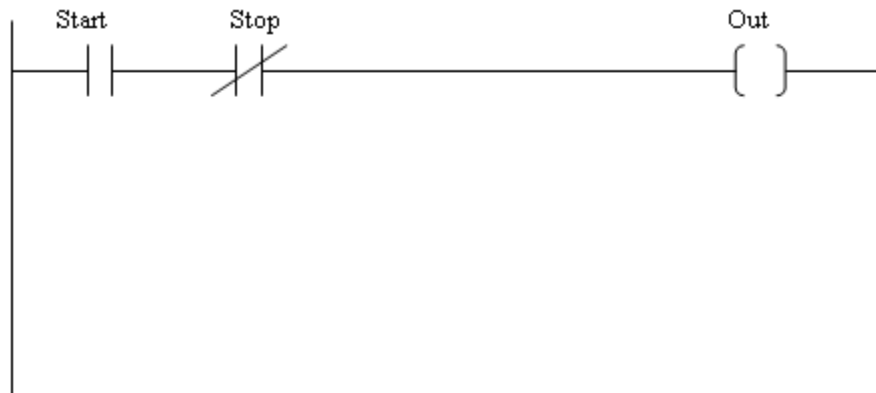
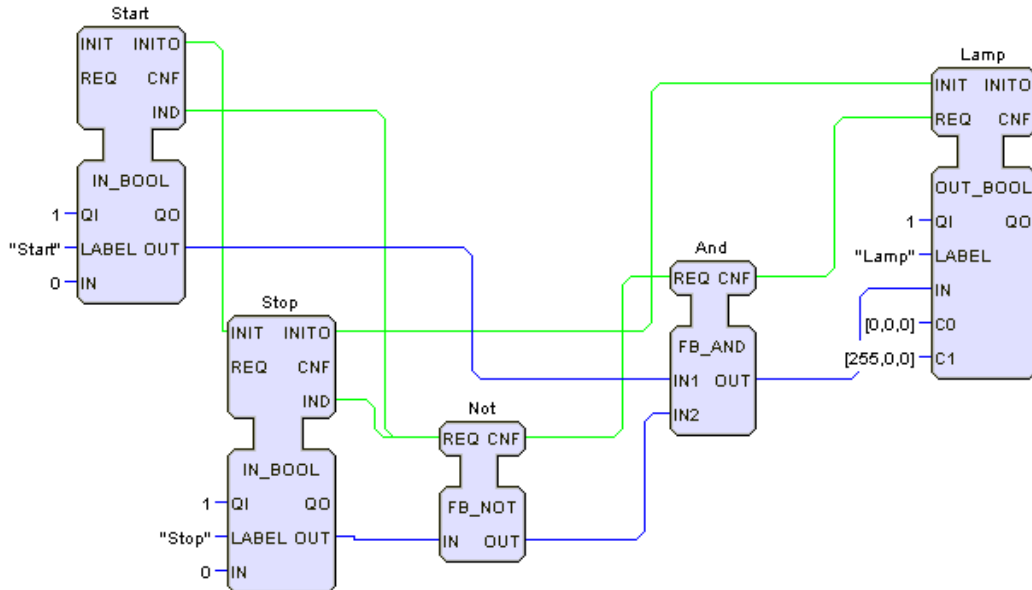

Figure 2.1a Ladder Logic for Composite Function Block
Figure 2.1b Function Block Equivalent of Figure 2.1a
SITUATION: Create a composite function block called ON_OFF_OC that will take two Boolean inputs and yield one Boolean output. The notation used to name the composite function block type is user determined. Here we indicate that it is for on/off operation and consists of one open (O) and one closed (C) contact. The ladder logic for this function block is as follows in Figure 2.1a.
Before we begin to create a composite function block, let us look at how the logic of Figure 2.1a would be implemented using basic function blocks. This is shown in Figure 2.1b. The start and stop switches and the output lamp function blocks are used to emulate inputs and outputs. The control logic is given by the FB_NOT and FB_AND function blocks. The logic is as follows:
The next entry on the list to the left of the screen after the entries under Properties is called Interface. Click on Interface and this workspace will display the composite function block itself. This is where events, data inputs, and data outputs can be created, deleted, and modified. The default new composite function block already has four events: INIT and INITO events for initialization, a REQ event for requesting of information, and a CNF event for confirmation. In general, there should always be INIT and INITO events for function blocks that retain internal information in order to make sure the function block does not use data from previous program runs. However, this function block only has data coming in from other function blocks; thus, the INIT and INITO events are not necessary. The reader can confirm this by looking at Figure 2.1b. The FB_NOT and FB_AND function blocks do not require an INIT event. Remove the INIT and INITO events by right clicking on each event name and select Delete. This composite function block will be requesting events for data, so there does not need to be any change to REQ. In addition, data from the composite function block will be sent along with requesting events, so there needs to be a confirmation event that the data is received. As a result, there is no need to change CNF.
However, there is only one data input and one data output currently for this default function block. QI is the input and QO is the output. Generally, they are important for some function blocks to actually function in a program; but in this case they are not necessary. Look at Figure 2.1b to confirm that they are not required for the FB_NOT and FB_AND function blocks. Therefore, these data inputs and outputs must be deleted. Right click on each of the names of the data input and data output and select Delete to delete them. The composite function should now look like Figure 2.5 below.
For this ON_OFF_OC function block, there needs to be two data inputs and one data output. Creating data inputs and data outputs are done by simply right clicking within the composite function block and click on New. Under New, there are two options: Events and Variable. Selecting Events allows new input and output events to be made; where as Variable is for creating new data inputs and data outputs. Click on Variable and click on Input to create a new data input. A window will pop up to define the name and data type for this input. For this tutorial, name this new data input IN1O-this will represent the open contact from Figure 2.1a. Click on Type and a pull down menu will appear to make the input a particular type. In this instance, both data inputs should be Boolean, so select BOOL to make IN1O a Boolean data input. Click OK when finished and the new data input should appear on the composite function block. Repeat this process for a data output named IN2C. This data input will represent the closed contact from Figure 2.1a to complete the necessary data inputs for the composite function block. When finished with the defining the data input, click on OK to see the updated results.
EXERCISE: Connect these two blocks together with one data connection and one event connection. Be sure to follow the ladder logic shown in Figure 2.1a.